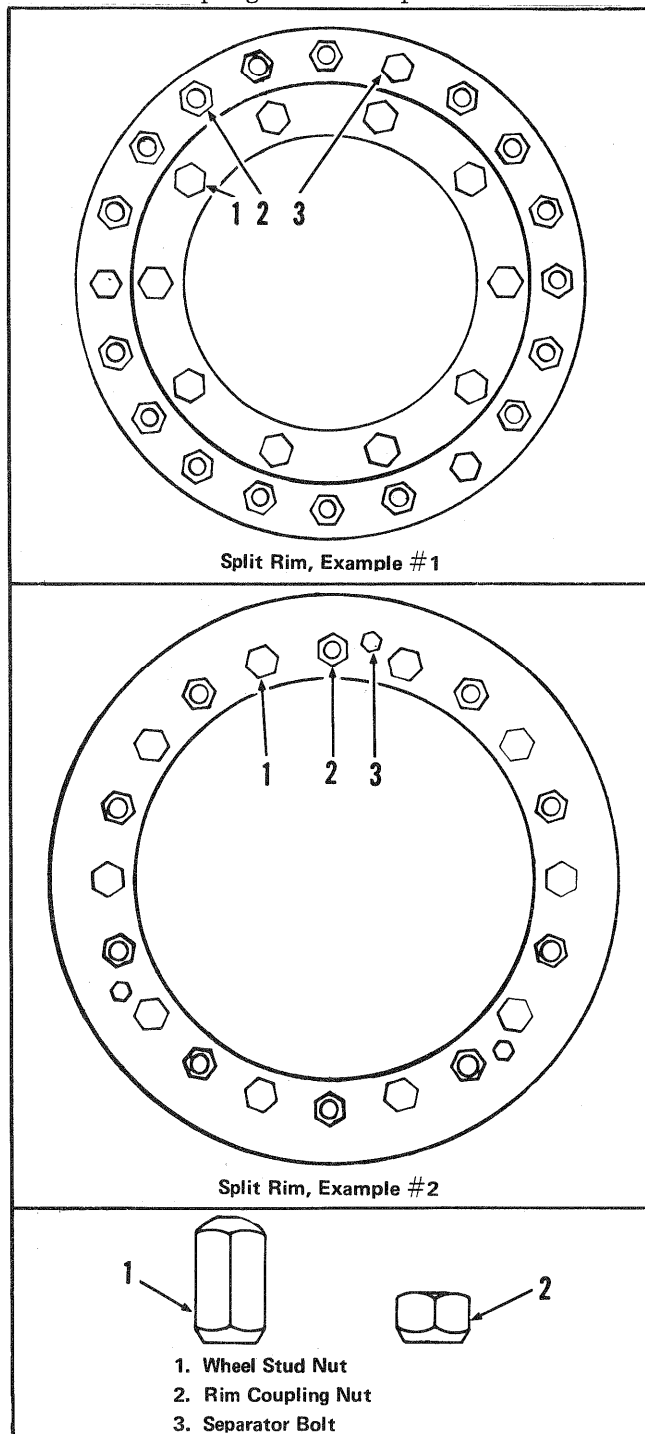

Fig. 12-3 Split Rims
5. Remove the rim stud nuts. Refer to Fig. 12-3 for the correct location of the rim stud nuts.
*NOTE: Example 1, in Fig. 12-3 visually shows the Rim coupling nuts facing the outside of the rim. The current rims of this style have the coupling nuts facing the inside of the rim. Both styles have the wheel stud nuts facing the outside of the rim.*